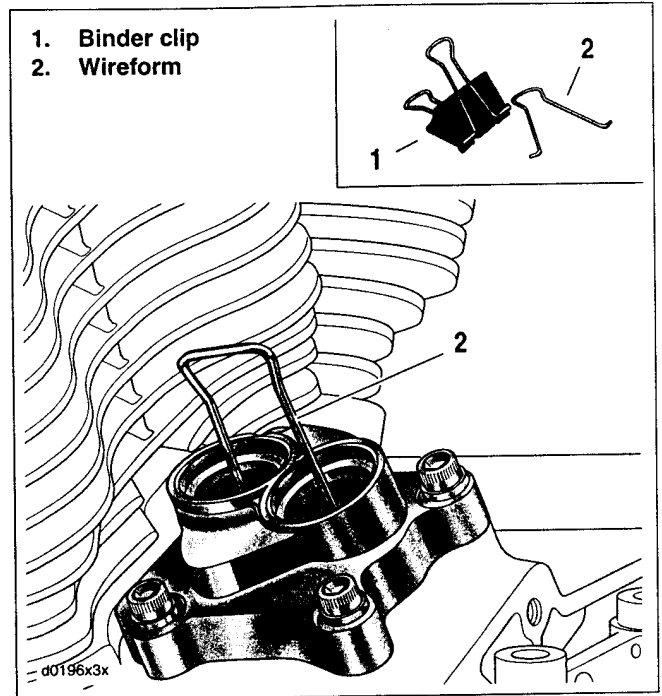

Figure 3-128. Hydraulic Lifter Holding Tool
2. See Figure 3-128. Fashion lifter holding tool to prevent the hydraulic lifters from dropping into the cam compartment during cam support plate removal.
- a. Obtain a large binder clip (1) which is available at any office supply store. Squeeze wireforms (2) to remove from binder clip.
- b. Compress wireform (2) slightly and insert free ends into outer and inner lifter cover bores so that legs engage walls of both hydraulic lifter sockets.